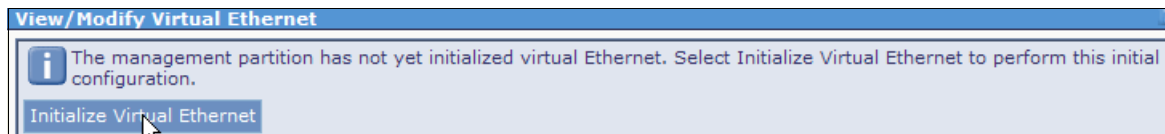

Figure 5-12 Initialize Virtual Ethernet
- a. In the **View/Modify Virtual Ethernet** panel, click **Initialize Virtual Ethernet**, as shown in Figure 5-12.